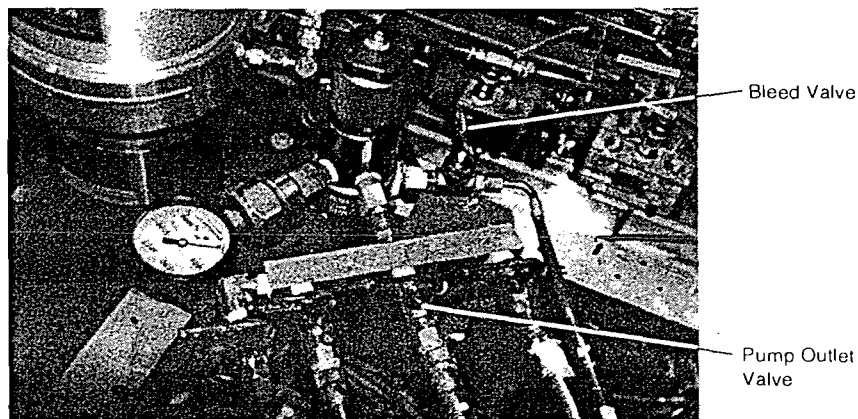
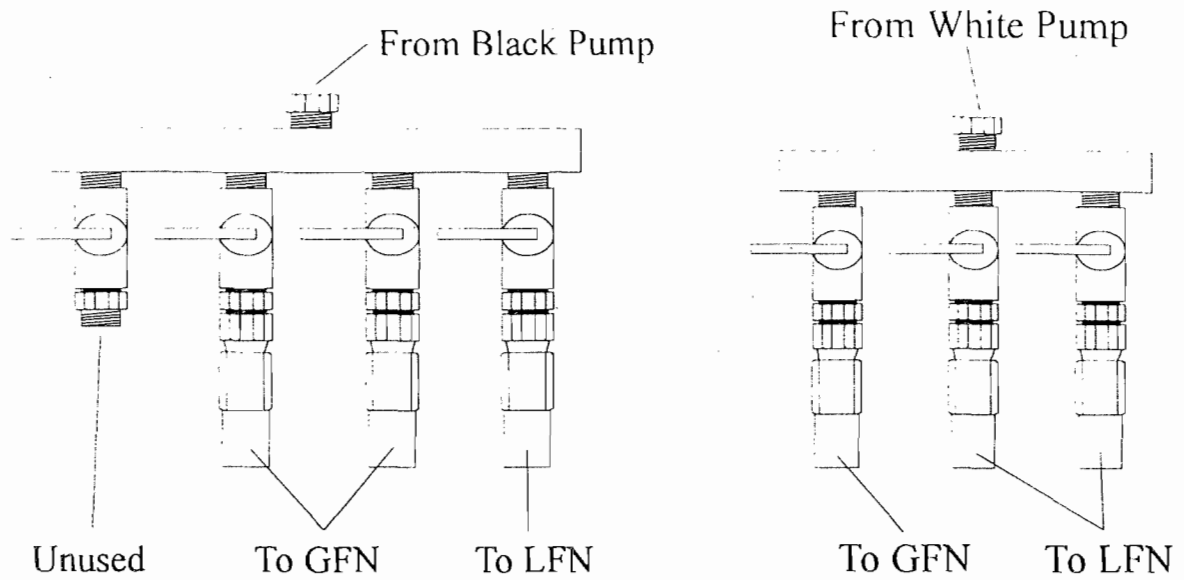

Figure 2.9.2: Pump Bleed Valve and Pump Outlet Valves
Figure 2.9.3: Pump Outlet Locations
2.9.2 Close the paint pump outlet valves. Also, close the paint pump bleed valve. (Figure 2.9.2 and Figure 2.9.3)
2.9.7 Open the pump bleed valve. (Figure 2.9.2)
2.9.11 Close bleed valve. (Figure 2.9.2)
2.10.4 Open the black paint outlet valves connected to the Gantry. There should be 2 black paint valves to open. Reference Figure 2.9.3 for the location.
2.10.11 Open the white paint outlet valves connected to the Gantry. There should be 1 white paint valve to open (Figure 2.9.3).
2.10.20 Open the black and white pump outlet valves. There should be 2 white outlet valves and 1 black outlet valve to open (Figure 2.9.3).